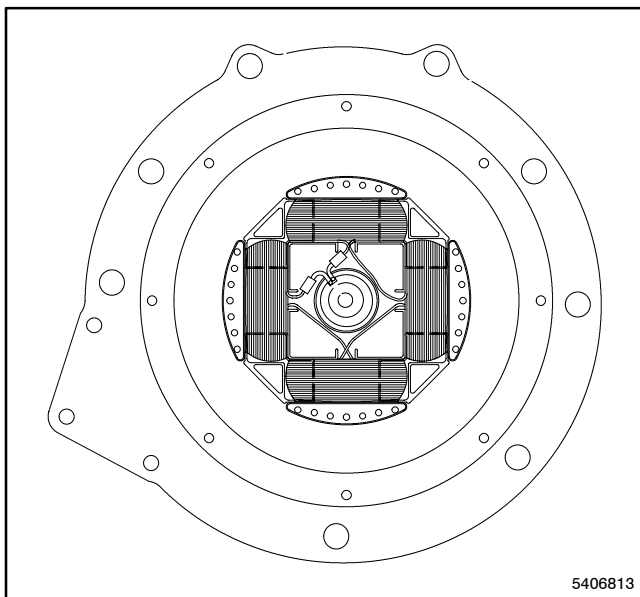

Figure 6-24 Drive Disc and Rotor
2. Position spacers on drive disc exactly as recorded during disassembly. Use eight nuts and spacers to reattach remaining drive disc and rotor to drive disc installed in previous step. See Figure 6-24. Torque mounting bolts to 7.9 Nm (70 in. lb.).